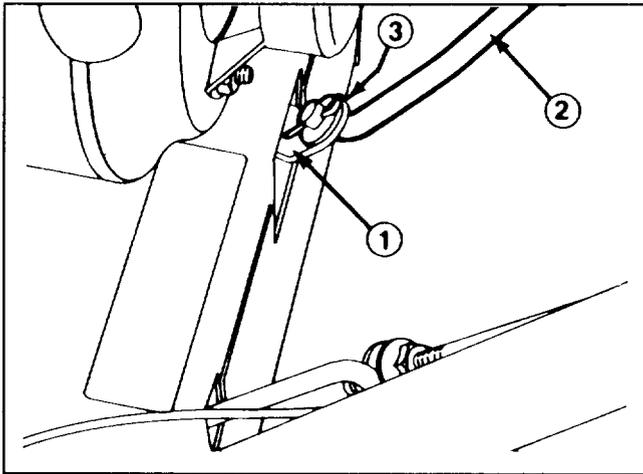
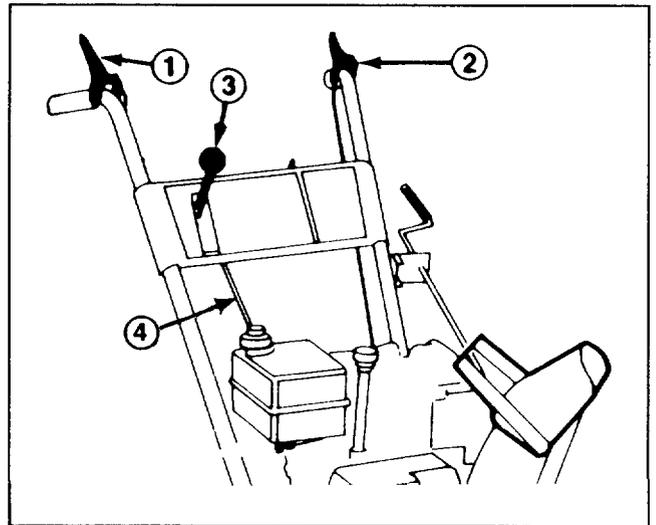

Figure 4
Figure 6
1. Pull speed selector arm (Fig. 4) to the fully "out" position and move speed selector (Fig. 6) on control panel to the R (REVERSE) position to ease assembly.
2. Install speed selector rod into selector arm, add one flat washer on the selector rod and secure with cotter pin (Fig. 4).
4. Adjust the two flange nuts up or down on the traction control rod until the distance between the top of the handgrip and the bottom of the traction control lever (Figs. 6 and 7) is approximately four inches. **This is a preliminary setting only.** Tighten the two flange nuts finger tight.
5. Move speed selector (Fig. 6) into third gear.
3. Check the distance between the top of the handgrip and the bottom of the auger control lever (Figs. 6 & 9). Distance should be approximately four inches. This is a preliminary setting only.